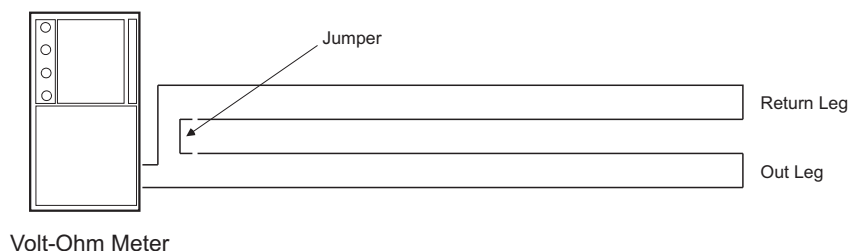

Figure 2-12. Measuring Class-A SLC Wiring Resistance
1. Short the “Out” and “Return” legs as shown in Figure 2-12. Measure the resistance using the other two terminating points at the control unit